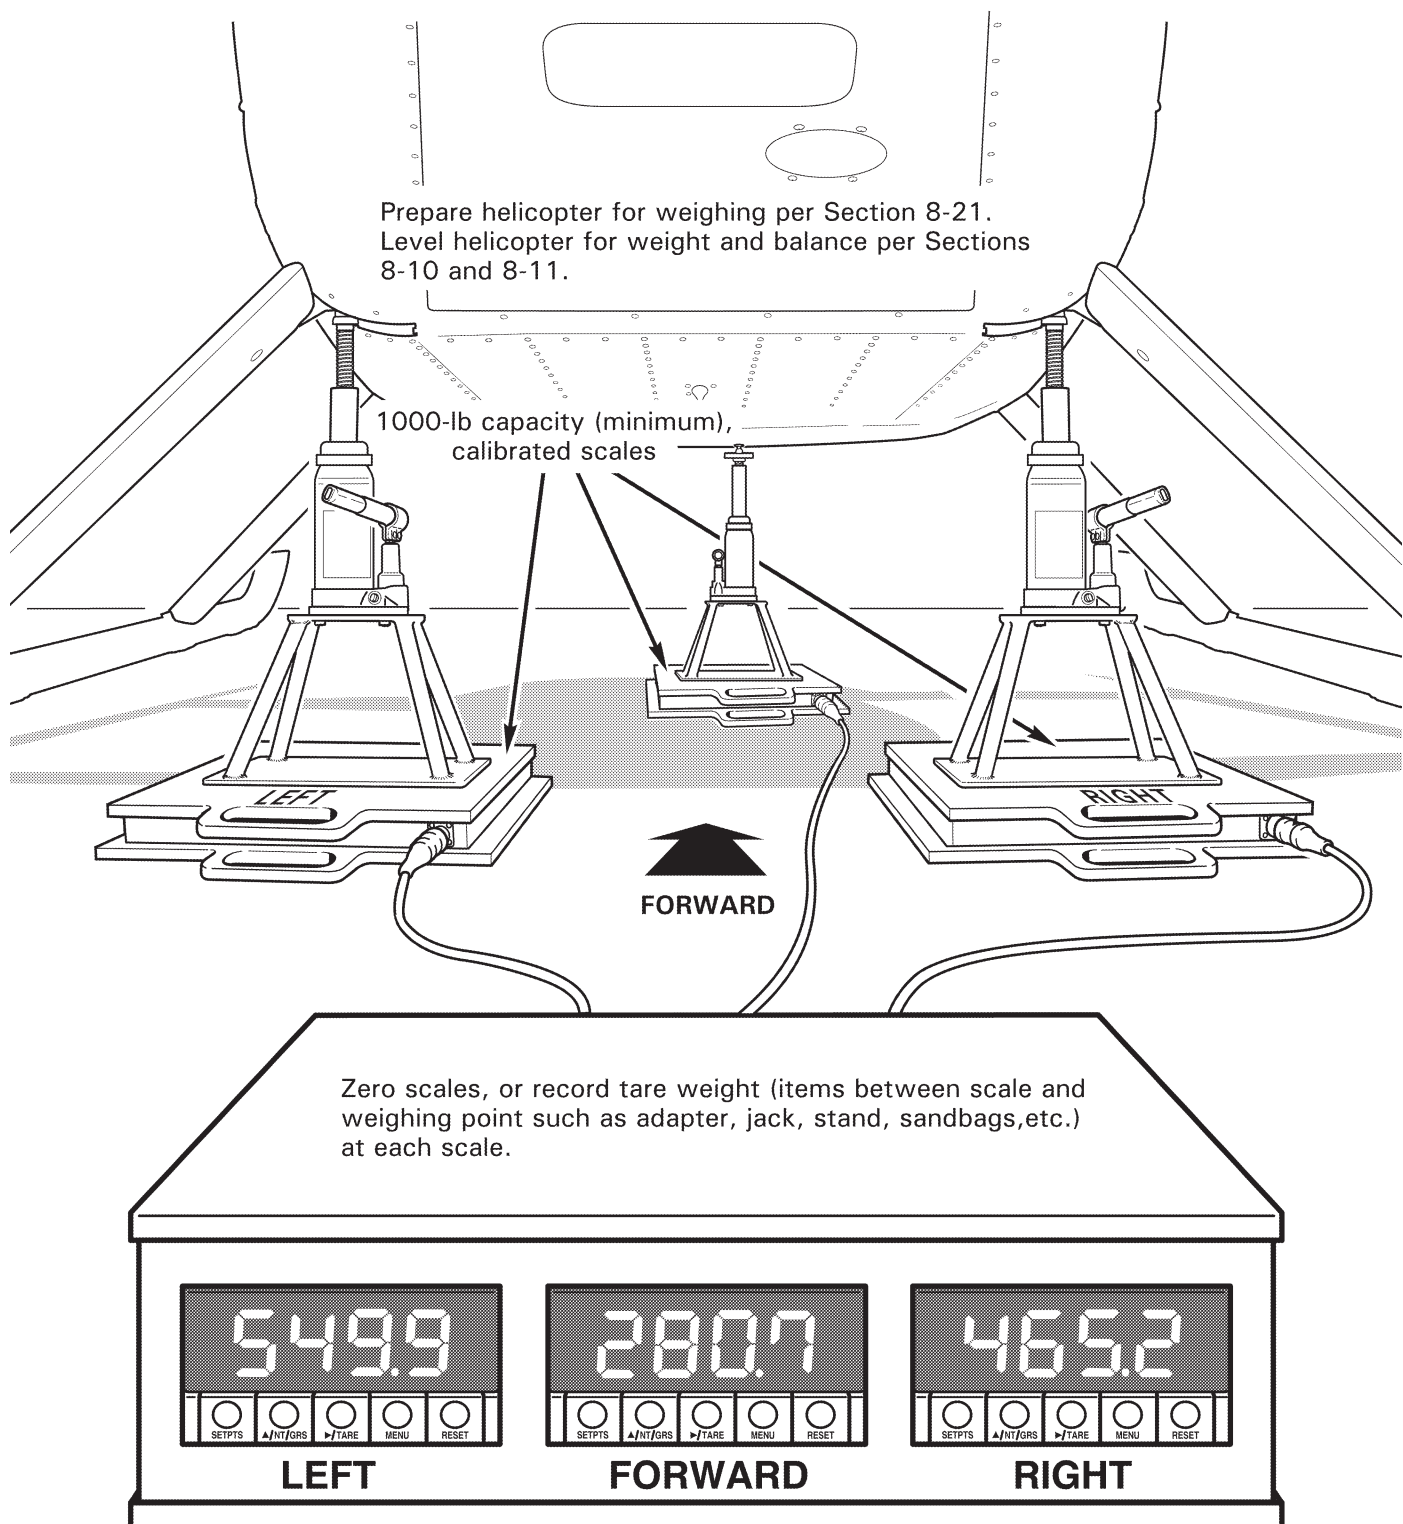

FIGURE 8-3 WEIGHING
2. Refer to Figure 8-3. Place a jack and one 1000-lb capacity (minimum) scale under each (landing gear) aft strut assembly jack lug/tab and under the ground handling ball.